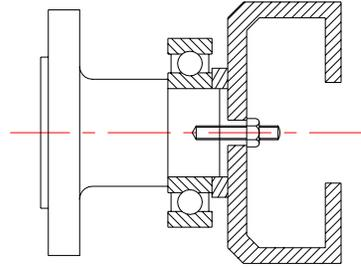

Fig. 41
- a) Refitting of the rear bearing is the reverse of removal process, using the ancillary tool to set the bearing correctly on the shaft (Fig. 41).